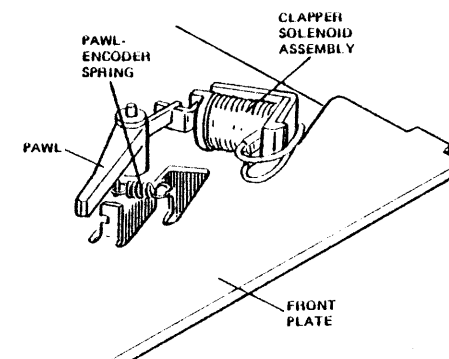

FIGURE 4-17
7. Figure 4-17 shows the pawl, pawl-encoder spring, and clapper solenoid assembly before they are removed from front plate. Notice how spring is hooked to front plate.